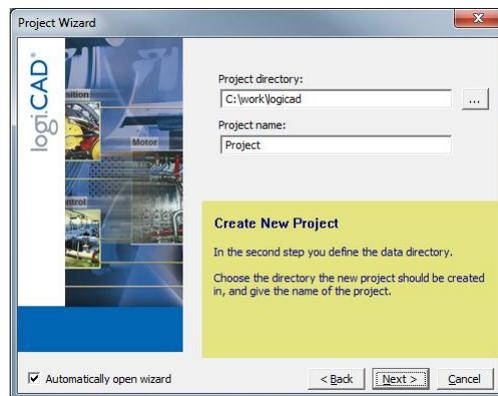

Figure 11: Project name and path
5. Specify the name of the project and the path where to store the project files, see Figure 11.